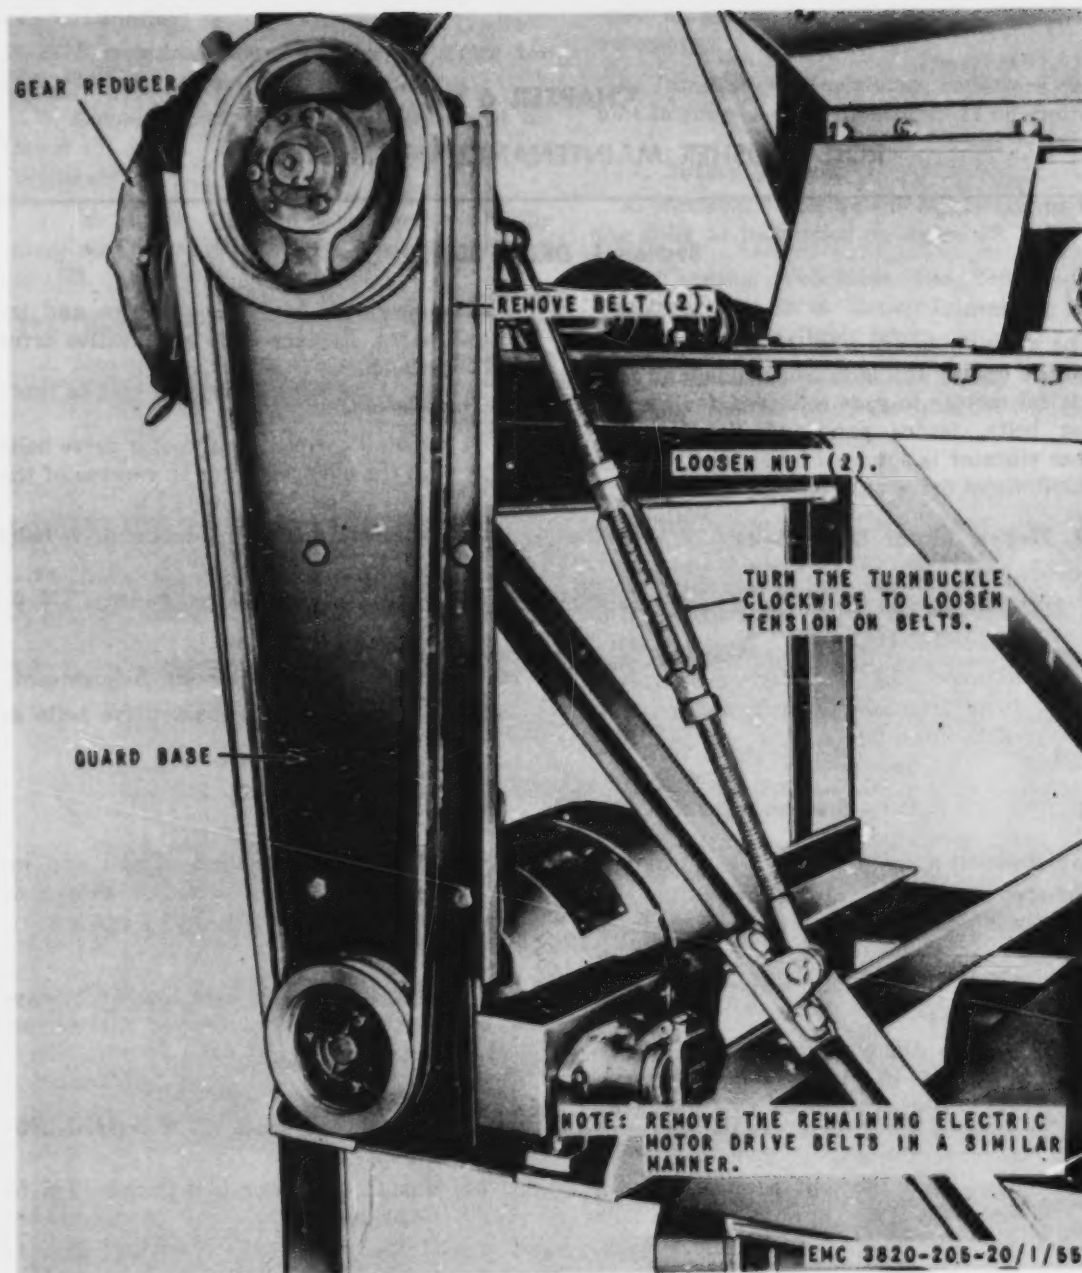

Figure 59. Electrical motor drive belts, removal and installation.
- (1) Remove the outer belt guard (TM 5-3820-205-10/1).
- (2) Remove the electrical motor drive belts from the electric motor as instructed on figure 59.
- (1) Install the electrical motor drive belts on the electric motor in reverse of the instructions on figure 59.
- (2) Adjust the electrical motor drive belts (TM 5-3820-205-10/1).
- (3) Install the outer belt guard (TM 5-3820-205-10/1).